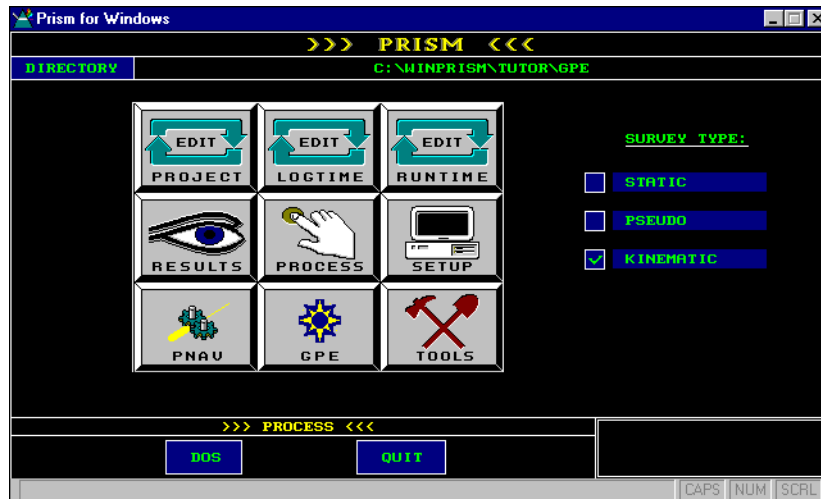

Figure 6.2: Selecting the Kinematic Toggle
2. Select the Kinematic Survey Type (Figure 6.2).